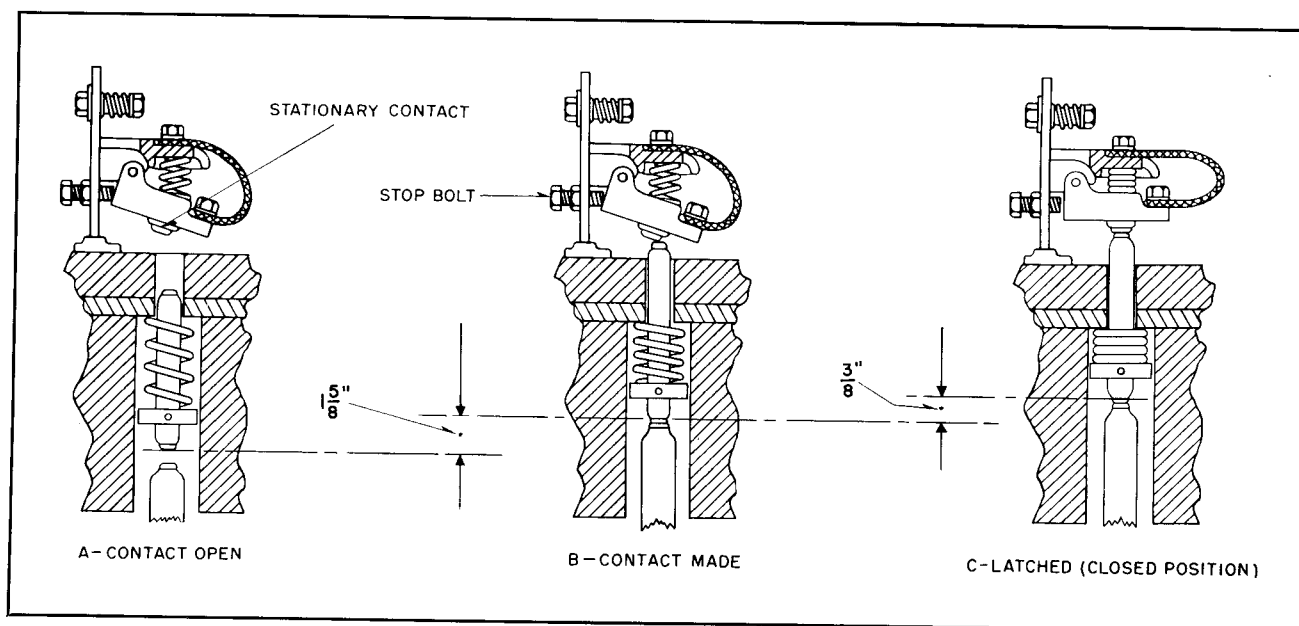

FIG. 21. Intermediate Contact Travel from Open to Fully Closed Position
2. Mark the position of the moving contact, replace the fibre screw, and continue to close the breaker slowly by hand. Stop the closing movement after the moving contact has moved  $15/8$ ". See Fig. 21.